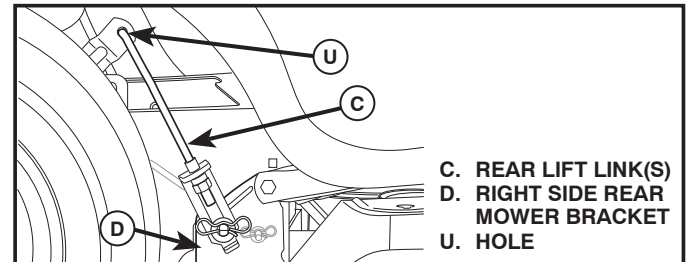

Fig. 13
## 7. ATTACH REAR LIFT LINKS (C) (See Fig. 13)
- Insert rod end of rear lift link (C) into hole (U) in tractor lift shaft suspension arm and pivot link down to mower.
- Lift rear corner of mower and position slot in link assembly over pin on rear mower bracket (D) and secure with large washer and large retainer spring.